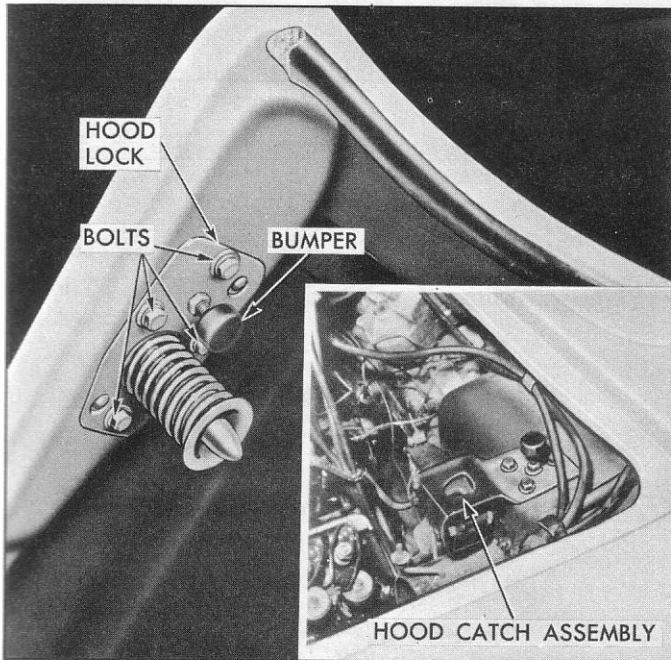
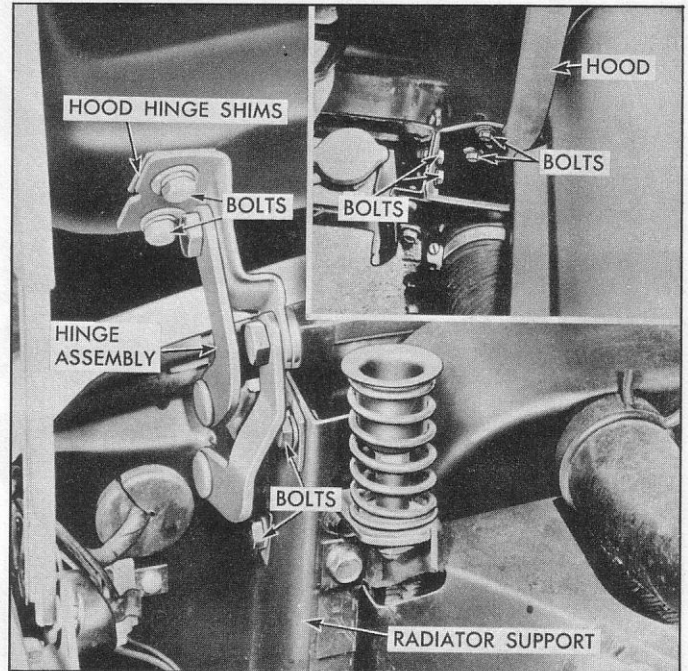

Fig. 4—Hood Adjustments—Rear
Fig. 5—Hood Adjustments—Front
The hood adjustments (figs. 4 and 5) are controlled by the position of the hood lock and hinges and the height of the hood bumpers.
**Vertical**—Adjust rear hood bumpers at each hood lock (fig. 4). The front hood bumpers (fig. 5) are adjusted at each hinge by loosening the bolts attaching the hinge to the radiator support and raising or lowering the hinge as required. If this range of adjustment is insufficient, shims may be added or removed between the hinge assembly and the hood.
**Lateral**—Adjust by loosening the two hood lock assemblies at the rear of the hood (fig. 4) and loosen bolts attaching the hinge assembly to the hood (fig. 5). Relocate hood as necessary and retighten bolts. The hood lock assemblies (fig. 4) should then be adjusted to freely enter the hood catch assemblies.